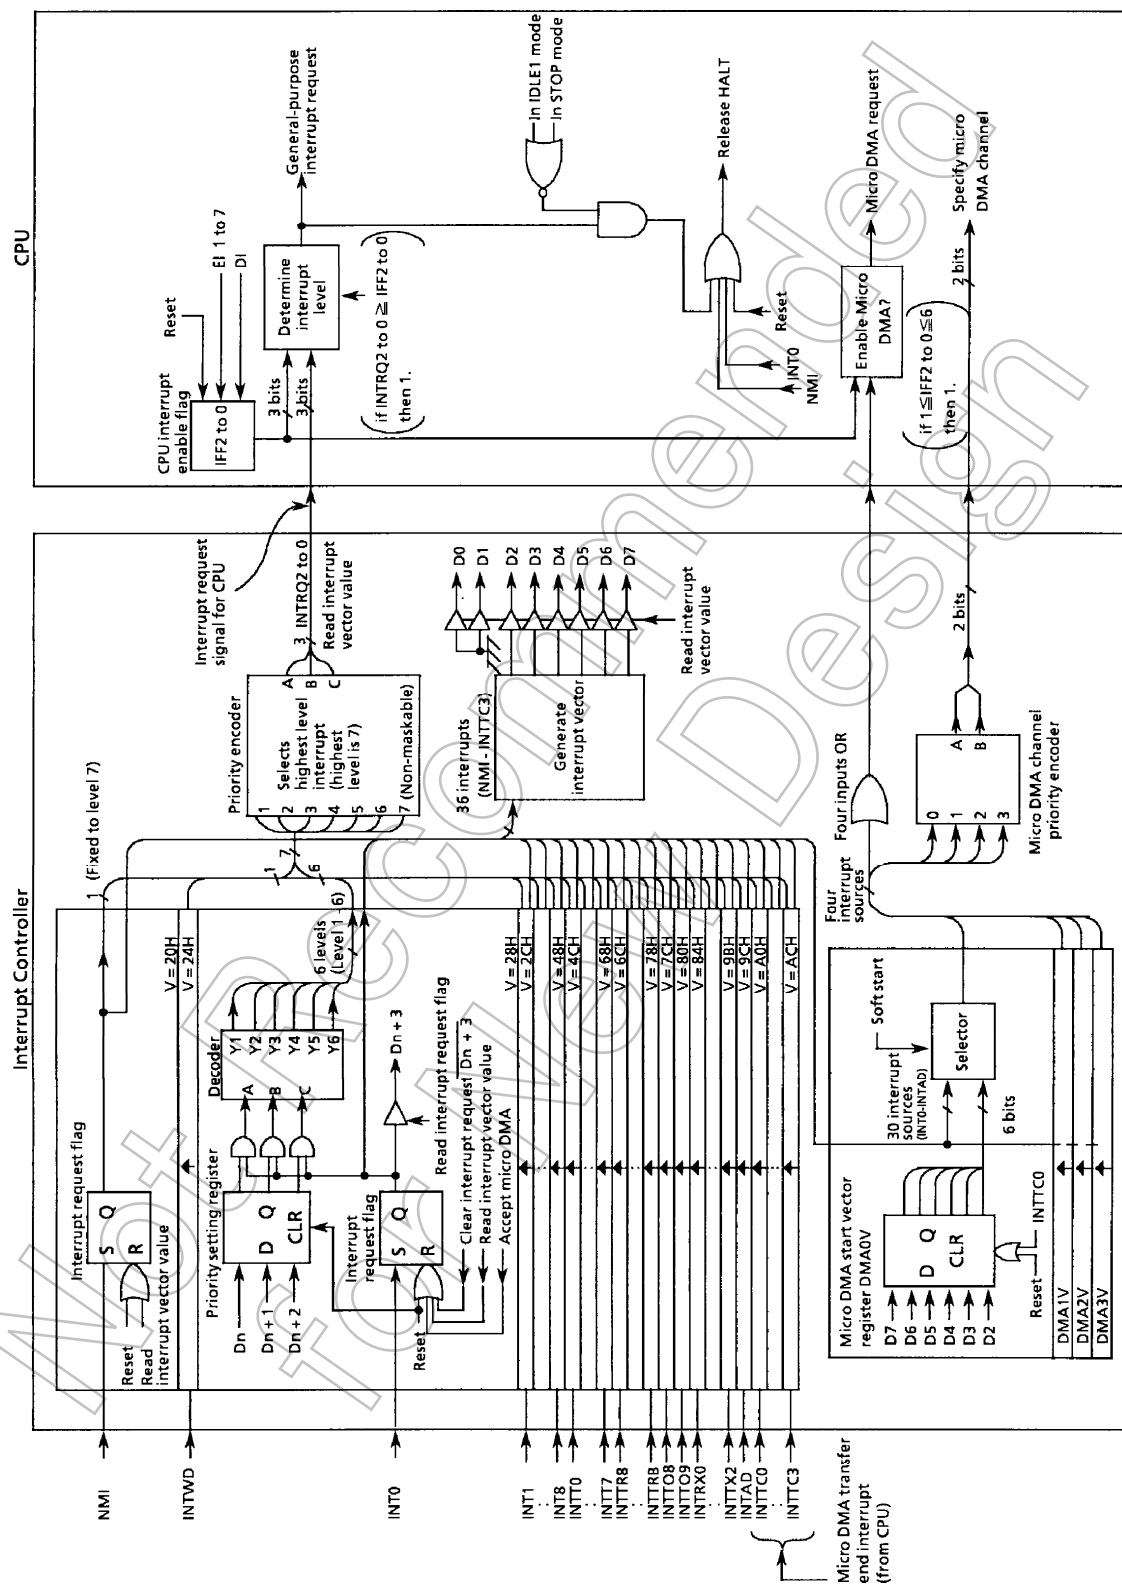

Figure 3.3 (4) Block Diagram of Interrupt Controller
(2) Interrupt Priority Setting Register
Figure 3.3 (5) shows the interrupt priority setting registers. Each of the 34 interrupt channels (INT0 to AD, INTTC0 to 3) has an interrupt request level setting bit <IxxM2:0>. An interrupt request is generated at six interrupt levels (levels 1 through 6). Setting the priority level to 0 (or 7) disables the corresponding interrupt request. The priority level for non-maskable interrupts (NMI pin input) is fixed to 7. If two or more interrupts with the same level occur simultaneously, the interrupts are accepted in accordance with the default priority.